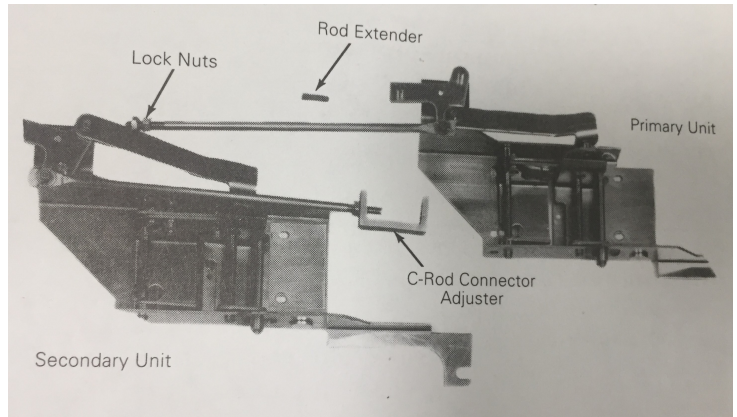

Figure 8. Attachment of the interconnection rod for a horizontal installation.
1. Attach the long rod ends to the pins on the pivots as shown in Figure 8. A variety of connecting hardware is provided in the Mechanical Interlock kit; the $\frac{1}{4}$ -20 threaded rod is supplied by the customer. Slip the provided heat-shrink tubing over the rod so that it provides insulation within the compartment through which the rod passes (right-side unit). Shrink the tubing in place with a hot air source of 300° C (212-572° F).